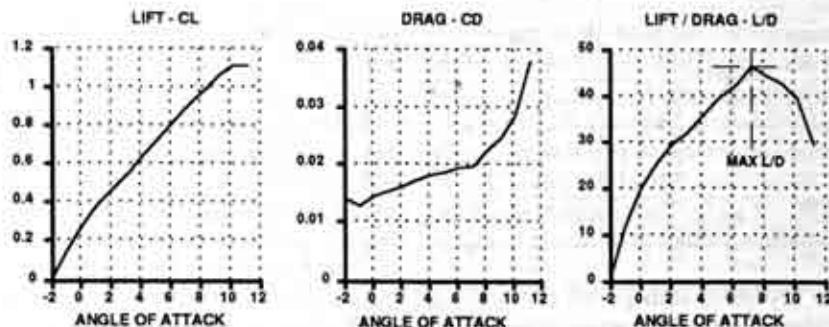
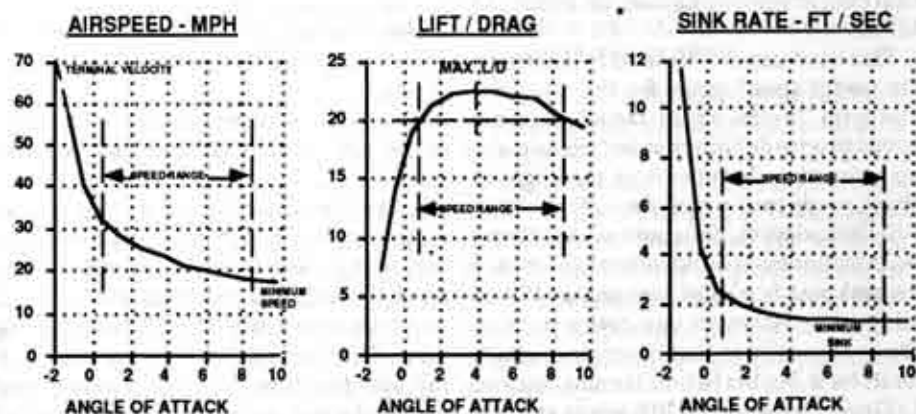

FIGURE 1 LIFT TO DRAG CALCULATIONS FOR SELIG 3021 AIRFOIL
FIGURE 3 PERFORMANCE PARAMETER PLOTS FOR THE FALCON 880 AS TAKEN FROM MAXSOAR
Let's start with the simple case first and just talk about the wing. Figure 1 shows the lift and drag data for the Selig 3021 airfoil on my Falcon 880. (If you have "Soartech Note 8" you can do this for almost any airfoil.) From the lift and drag data you can draw the "L/D" chart. Simply pick an angle of attack and read the coefficient of lift (CL) and the coefficient (CD) corresponding to it from the charts, divide the CL by the CD (This gives the lift to drag ratio.), and plot it on a chart.
Figure 1 shows that the wing will fly the greatest distance if flown at an angle of attack of 7.3 degrees. Pretty simple so far?
the data table that held all of the performance information I needed except for the angle of attack data. For that I had to go to the airfoil data in "Soartech 8" and get the angles of attack corresponding to the C_L and Reynolds Number data in the MAXSOAR table. The results of this effort are shown in Table 1 and plotted in Figure 3.
The key pitch trim points can now be identified. Figure 3 shows the three charts taken from the table. First is the airspeed chart. Maximum speed (also called terminal velocity) occurs when the coefficient of lift goes to zero - thus driving the induced drag to zero and, hence, the overall drag to a minimum. This occurs at -2 degrees angle of attack and checks with the airfoil data in Figure 1. My Falcon (weight = 80 oz), according to MAXSOAR, should do about 70 MPH in a vertical dive at this angle of attack. At the other extreme is the minimum airspeed bottoming out at an angle of attack of about 10 degrees and a speed of 17 MPH. Again, this checks out with the stall angle of attack shown in Figure 1.